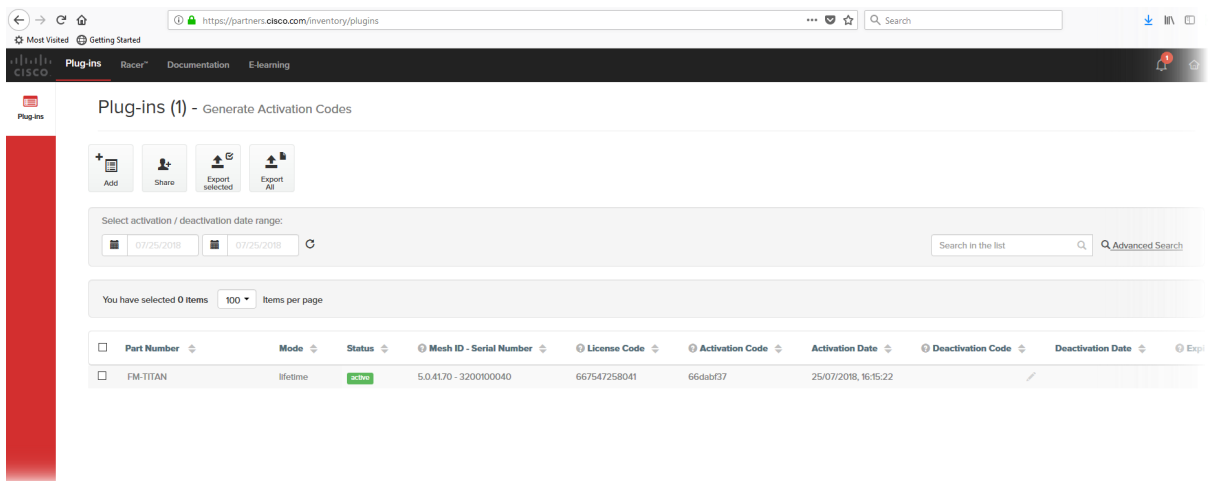

Figure 69. Partner Portal Plug-ins page (License code deactivation)
- The Plug-ins web page will be shown (Figure 69 \(page 157\)).